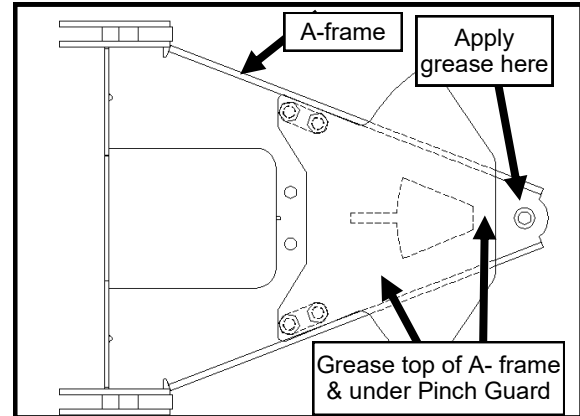

Fig. 3.1—A-Frame and Hardware
- 3.1** Per fig 3.1, locate the A-frame, one 1/2-20 x 3.5" hex head bolt, one 1/2-20 conical locking hex nut, and one 1/2" washer. Apply all-season grease to the top and bottom surface of the A-frame around and in the 1/2" bolt hole. Grease should extend about an inch away from the center of the hole.